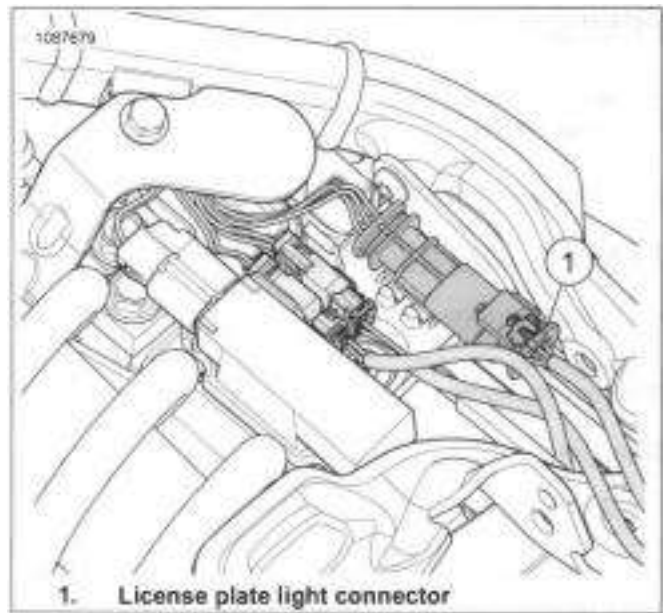
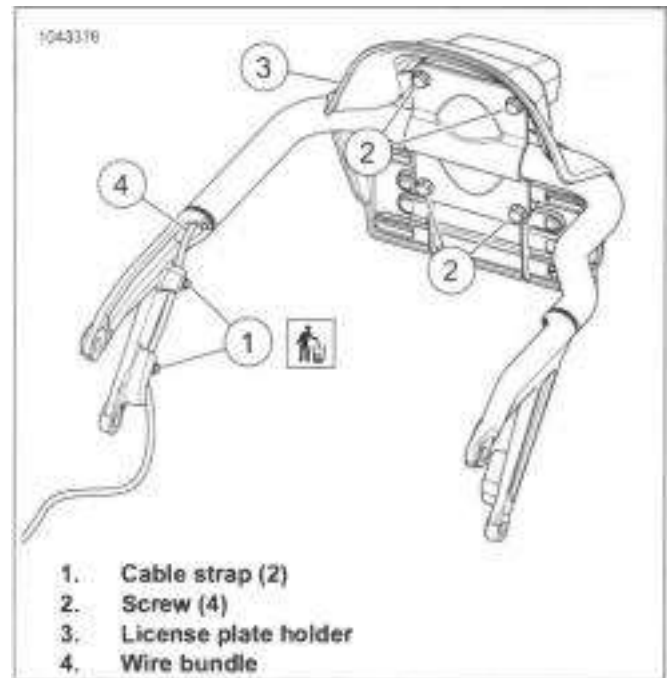
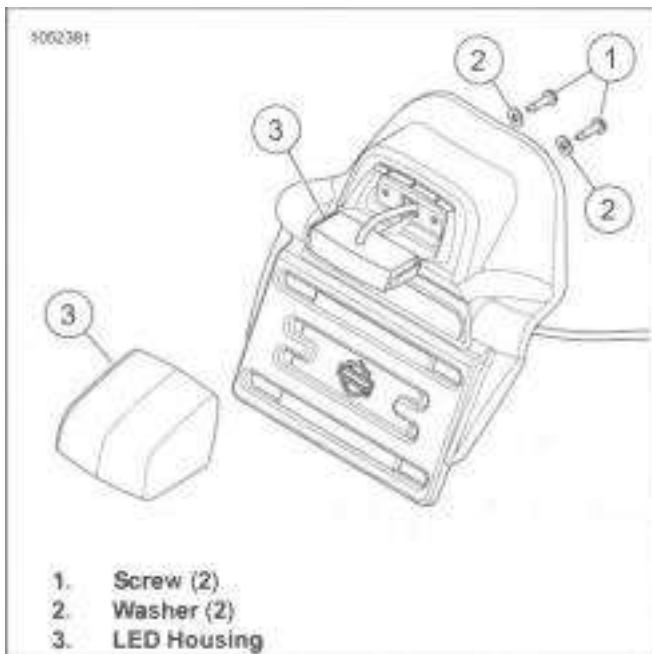

Figure 7-112. License Plate Light Connector
Figure 7-113. License Plate Holder
Figure 7-114. License Plate Mount LED Housing
1. See Figure 7-112. Disconnect license plate connector (1).
2. Disconnect pins from connector (1). See electrical diagnostic manual.
3. See Figure 7-113. Discard cable straps (1).
4. Remove screws (2).
5. Remove license plate holder (3).
6. Remove wire bundle (4) from frame.
7. See Figure 7-114. Remove screws (1) and washers (2).
8. Remove LED housing (3).
1. See Figure 7-114. Install LED housing (3).
2. Install screws (1) and washers (2). Tighten.
3. See Figure 7-113. Route wire bundle (4) through frame.
4. Install license plate holder (3).
5. Install screws (2). Tighten.
6. Route harness and install new cable straps (1).
7. Connect pins to connector (1). See electrical diagnostic manual.
8. See Figure 7-112. Connect license plate connector (1).